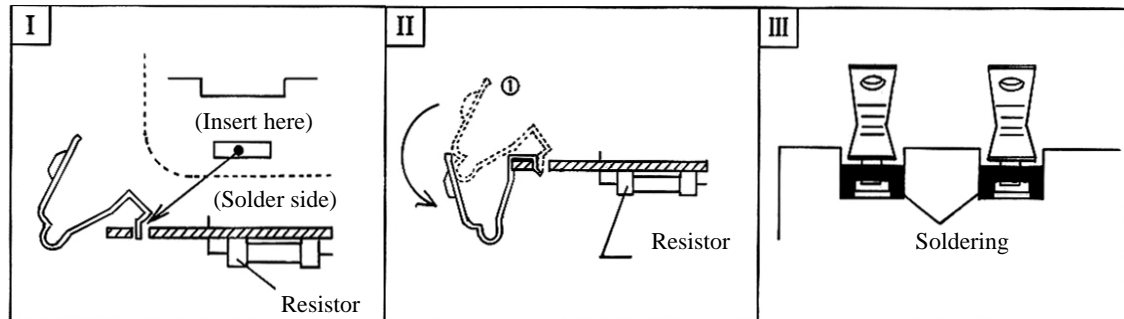

Fig 3-12
⑥	Are the battery fittings installed without tilt? (See Fig 3-12 II) Are the battery fittings not crushed? (See ⑥ Note)
⑦	Have you not forgotten to install the fuse?
⑧	Are the positions of installation of red and black test leads correct (not reversed)? Are the red and black test leads inserted from the silk-screen printed side of the printed board?
②-3 ~ ⑥ and ⑧	Is the soldering well done? Have you not forgotten to solder any component?